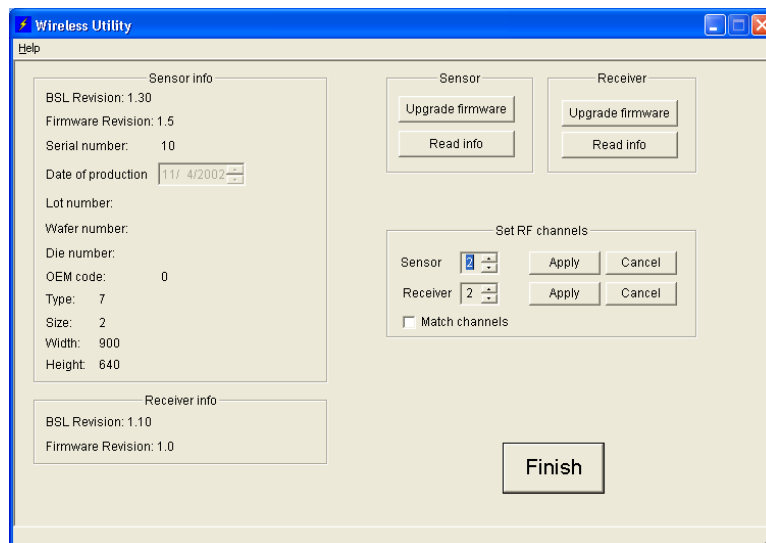

Figure 9. Wireless Tools Selection Screen
6. If you wish to upgrade Sensor firmware (**Figure 9**):
5. If you wish to upgrade Receiver firmware (**Figure 9**):